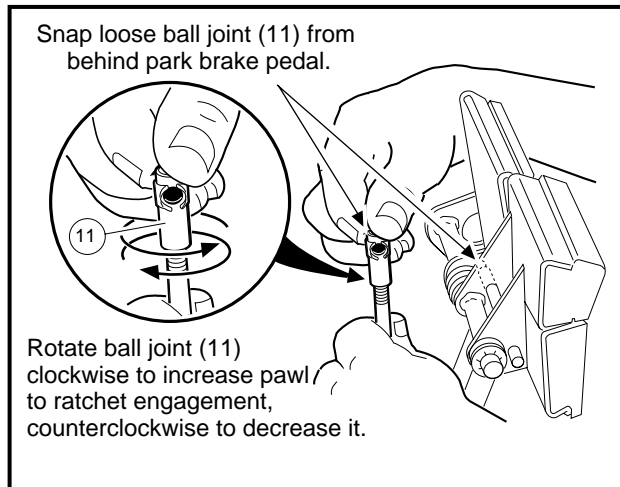

Figure 5-14 Brake Rod Adjustment
- 2.6. If ratchet/pawl engagement must be adjusted, disconnect the ball joint at the top of the brake rod and rotate the ball joint sleeve clockwise to increase engagement or counterclockwise to decrease engagement. Reconnect ball joint (**Figure 5-14, Page 5-10**).